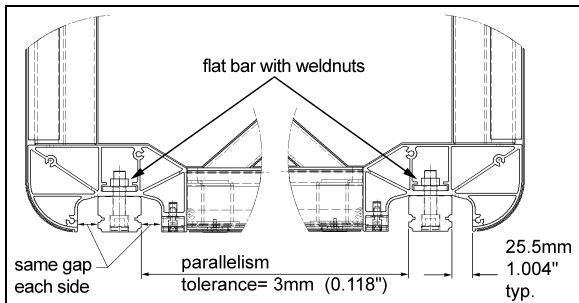

FIGURE 28: RAIL POSITIONING
The rail is bolted to a flat bar on which weldnuts are mounted. The flat bar is inserted in the slide-out lower body extrusion and can be removed through the end cap (Figure 28).
- Adjust the rail position per Figure 28. For each rail, make sure the gap is the same on both sides of the rail. Use acetal blocks to inspect the gap.